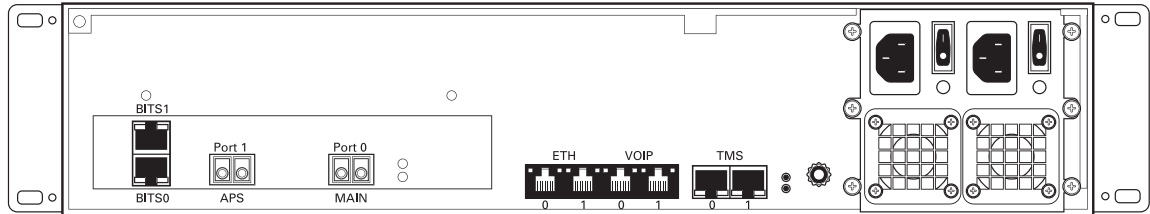

Figure 4.5 Optical Interface to the PSTN
A TMG7800-STM-1, with one main and one backup APS OC3 or STM1 port enables connection to OC3/STM1 lines. See figure 4.5 on page 35. The APS port is used for OC3/STM1 redundancy. Switchover occurs automatically based on configurable parameters. It is recommended that APS be used if the installation provides this feature.
1. Connect a fiber optic cable between the Port 0 (Main) port and OC3/STM1 line, as shown in figure 4.5 on page 35.